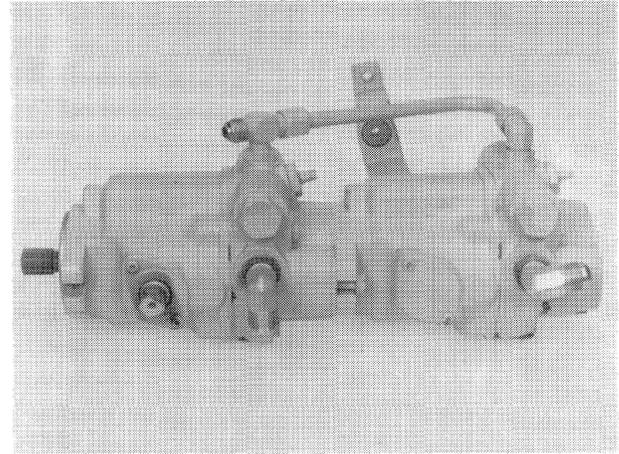

FIGURE 3-6
10. The complete hydrostatic pump assembly, Figure 3-6, can now be removed through the top or, if the belly pan and fuel tank have been removed, through the bottom.